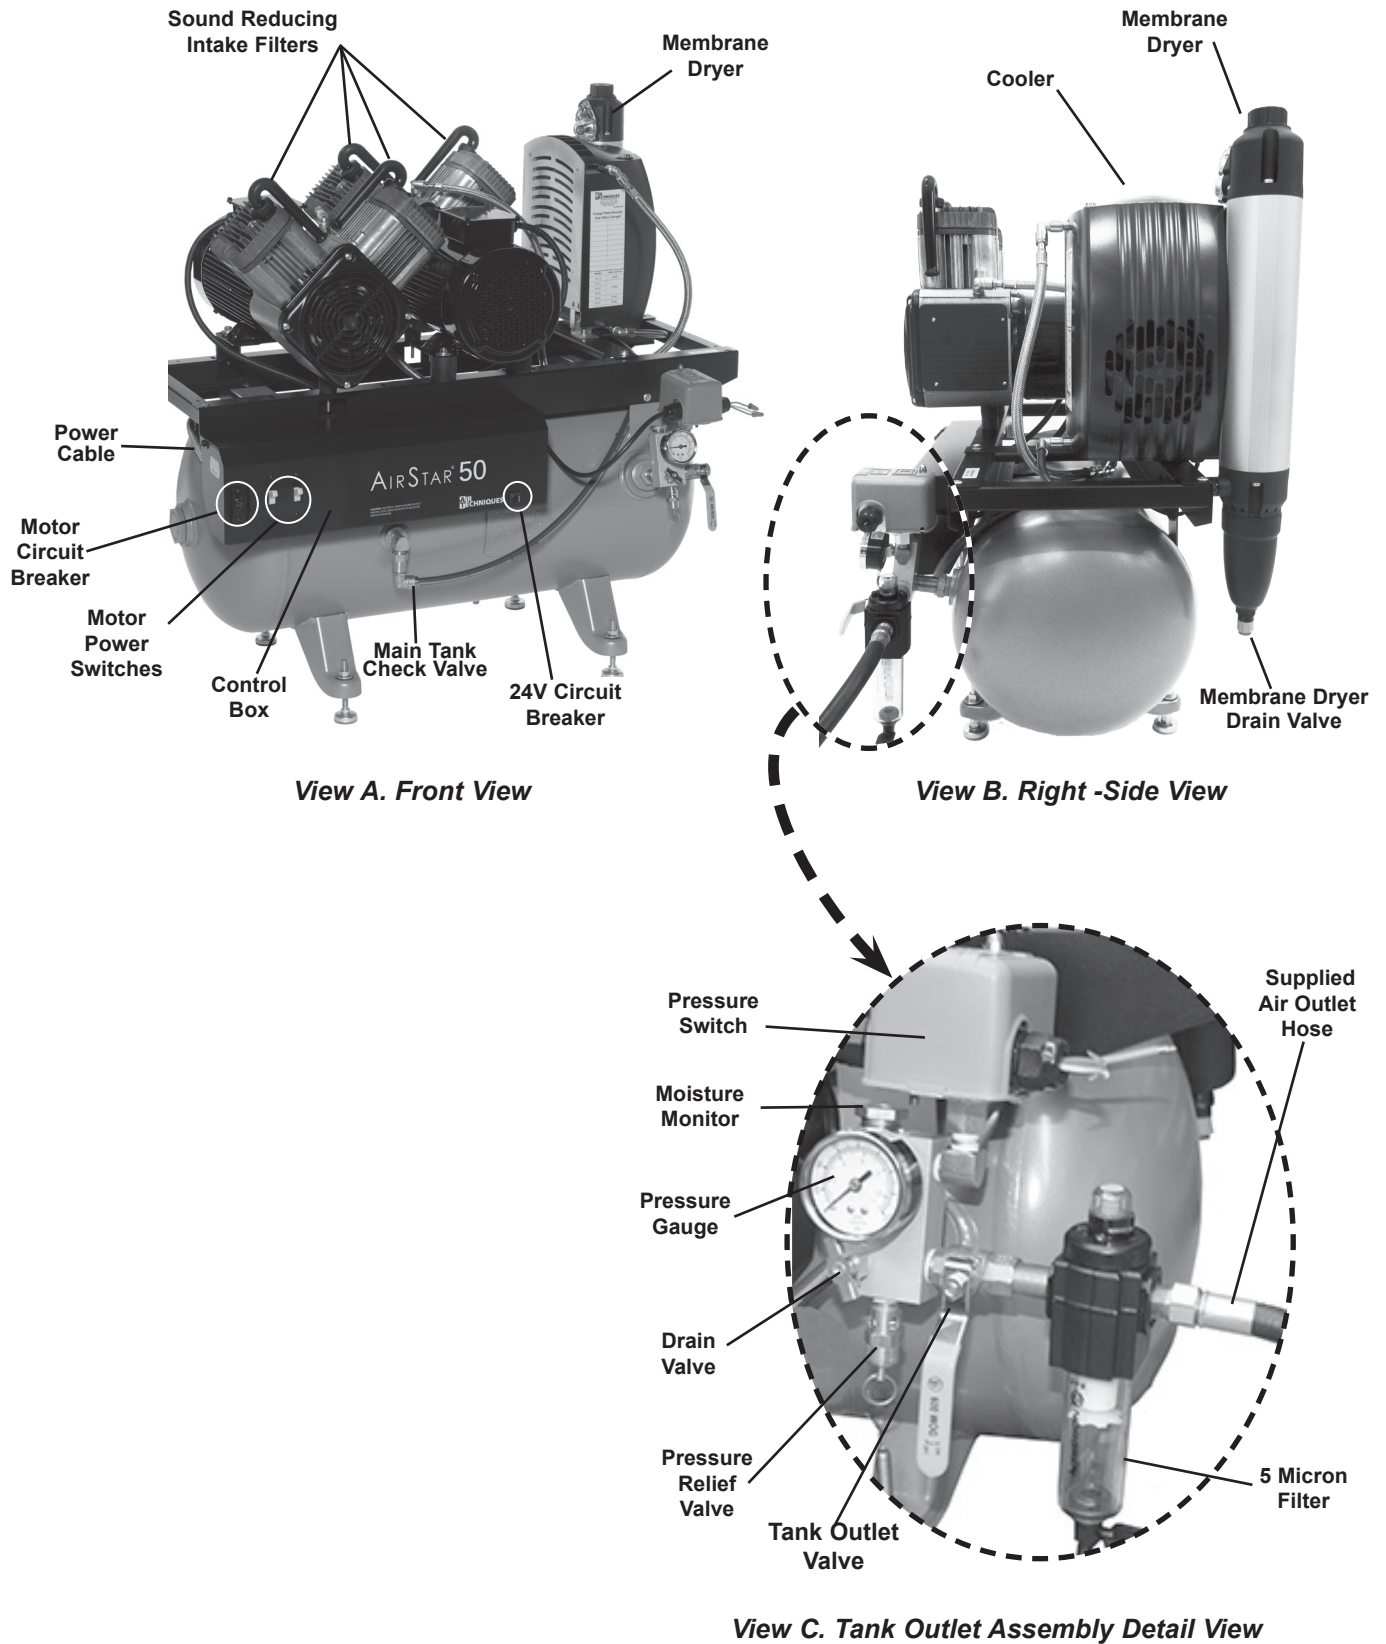

Figure 1. AirStar Parts Location
Each Airstar is shipped in a single carton containing the fully assembled unit and associated accessory kit. See Figure 1. Unpack and inspect for physical damage such as scratched panels, damaged components, etc. If any damage is found, notify Air Techniques so corrective action can be taken. Verify that all items were received.
- **PLUMBING CONNECTION:** The Tank Outlet Assembly (See Figure 1, View C), (the storage tank outlet for the dry air) is connected to the operatory air system via a 3/8" F.N.P.T. shut-off valve and 6 foot length of pressure hose (supplied).